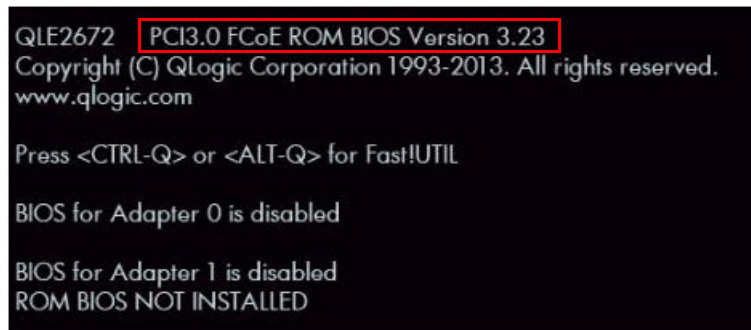

Figure 3-12. Personality Change Complete
7. To reboot the system, select **Reboot System**, and then press ENTER. After you reboot the system, the new personality takes effect, as shown in Figure 3-12.